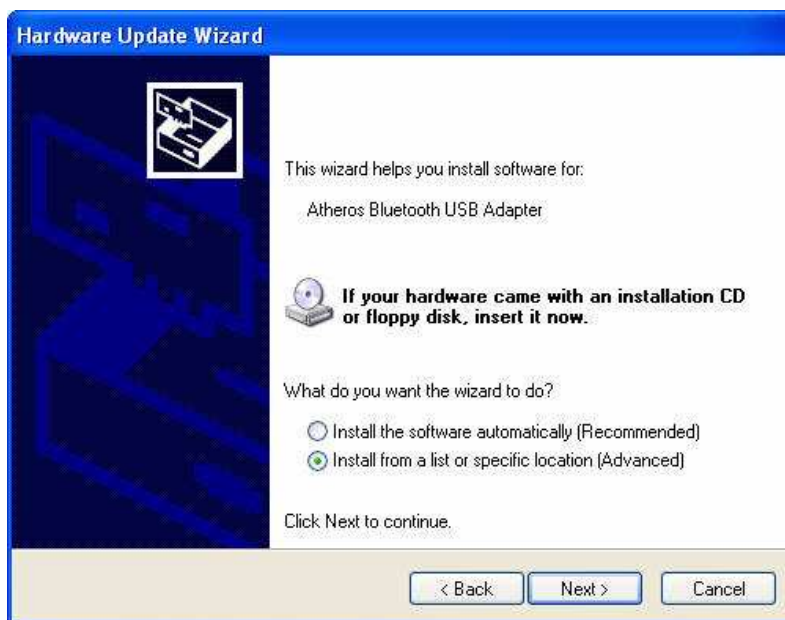

Figure 1-13. Installing from a list or specific location
5. This displays another screen that allows you to install from a particular location. See Figure 1-13.